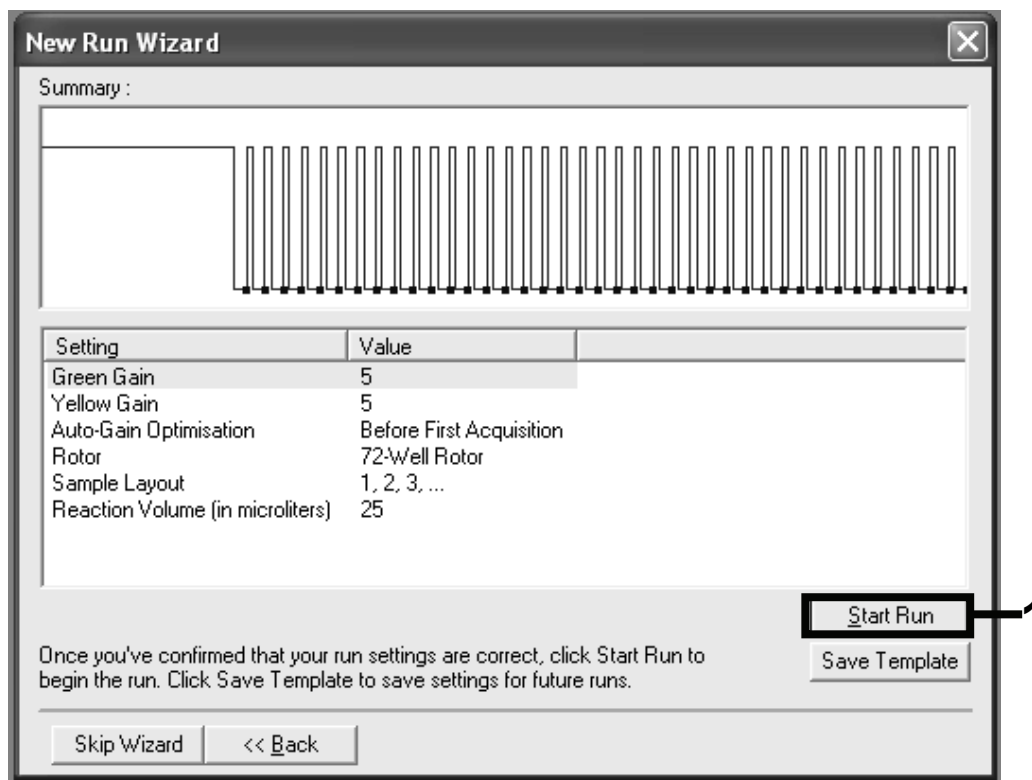

Figure 14. Starting the run.
Starting the run	Figure 14
23. Check the summary and then click “Start Run” to save the run file and start the run (Figure 14).